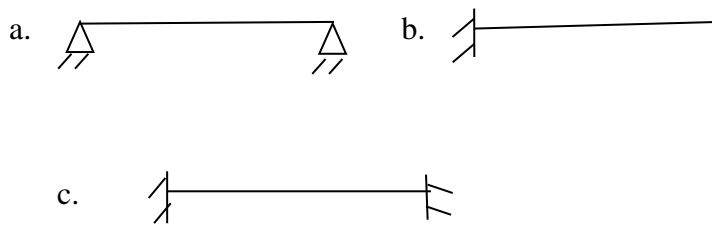

Fig.3
6 a) Define kinematic indeterminacy. Determine the kinematic indeterminacy of the following structures in Fig 3. (5)